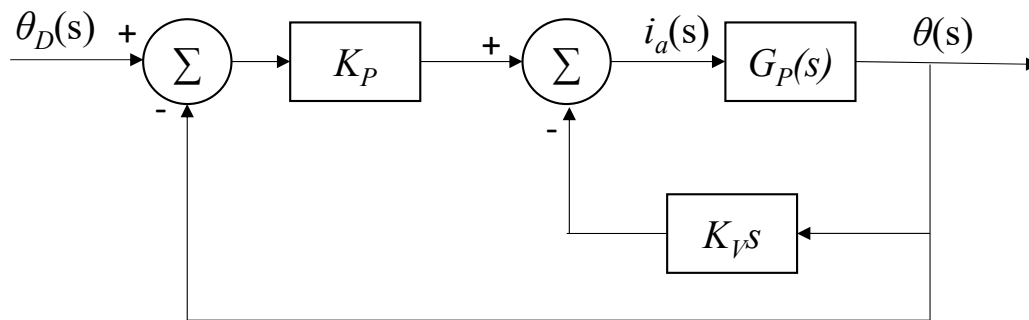

Figure 3. Block diagram of PV Control
- 3.4** Now change your PD and PID controllers to PV and PIV controllers, respectively. As shown in Figures 3 and 4, remove the derivative term from G_C and implement a separate velocity feedback, using the same values for K_V as you used for K_D . Show that this results in the same closed-loop pole locations as in problems 1 and 2, but now there is one less closed-loop zero. How does the presence/absence of the closed-loop zero influence the step response? Simulate and use plots to compare the responses. Also include a picture of your Simulink model(s).